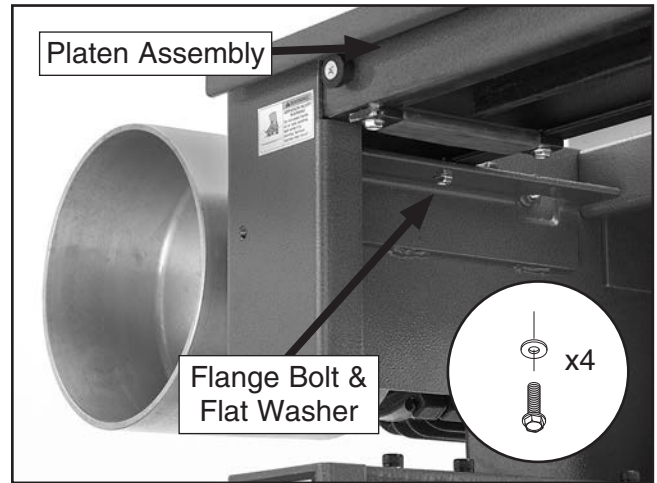

Figure 15. Platen assembly.
- With the help of an assistant, place the platen assembly onto the assembled frame, then secure it with (4) $\frac{1}{4}$ "-20 x $\frac{1}{2}$ " flange bolts and (4) $\frac{1}{4}$ " flat washers, as shown in **Figure 15**. Do not yet fully tighten the flange bolts.